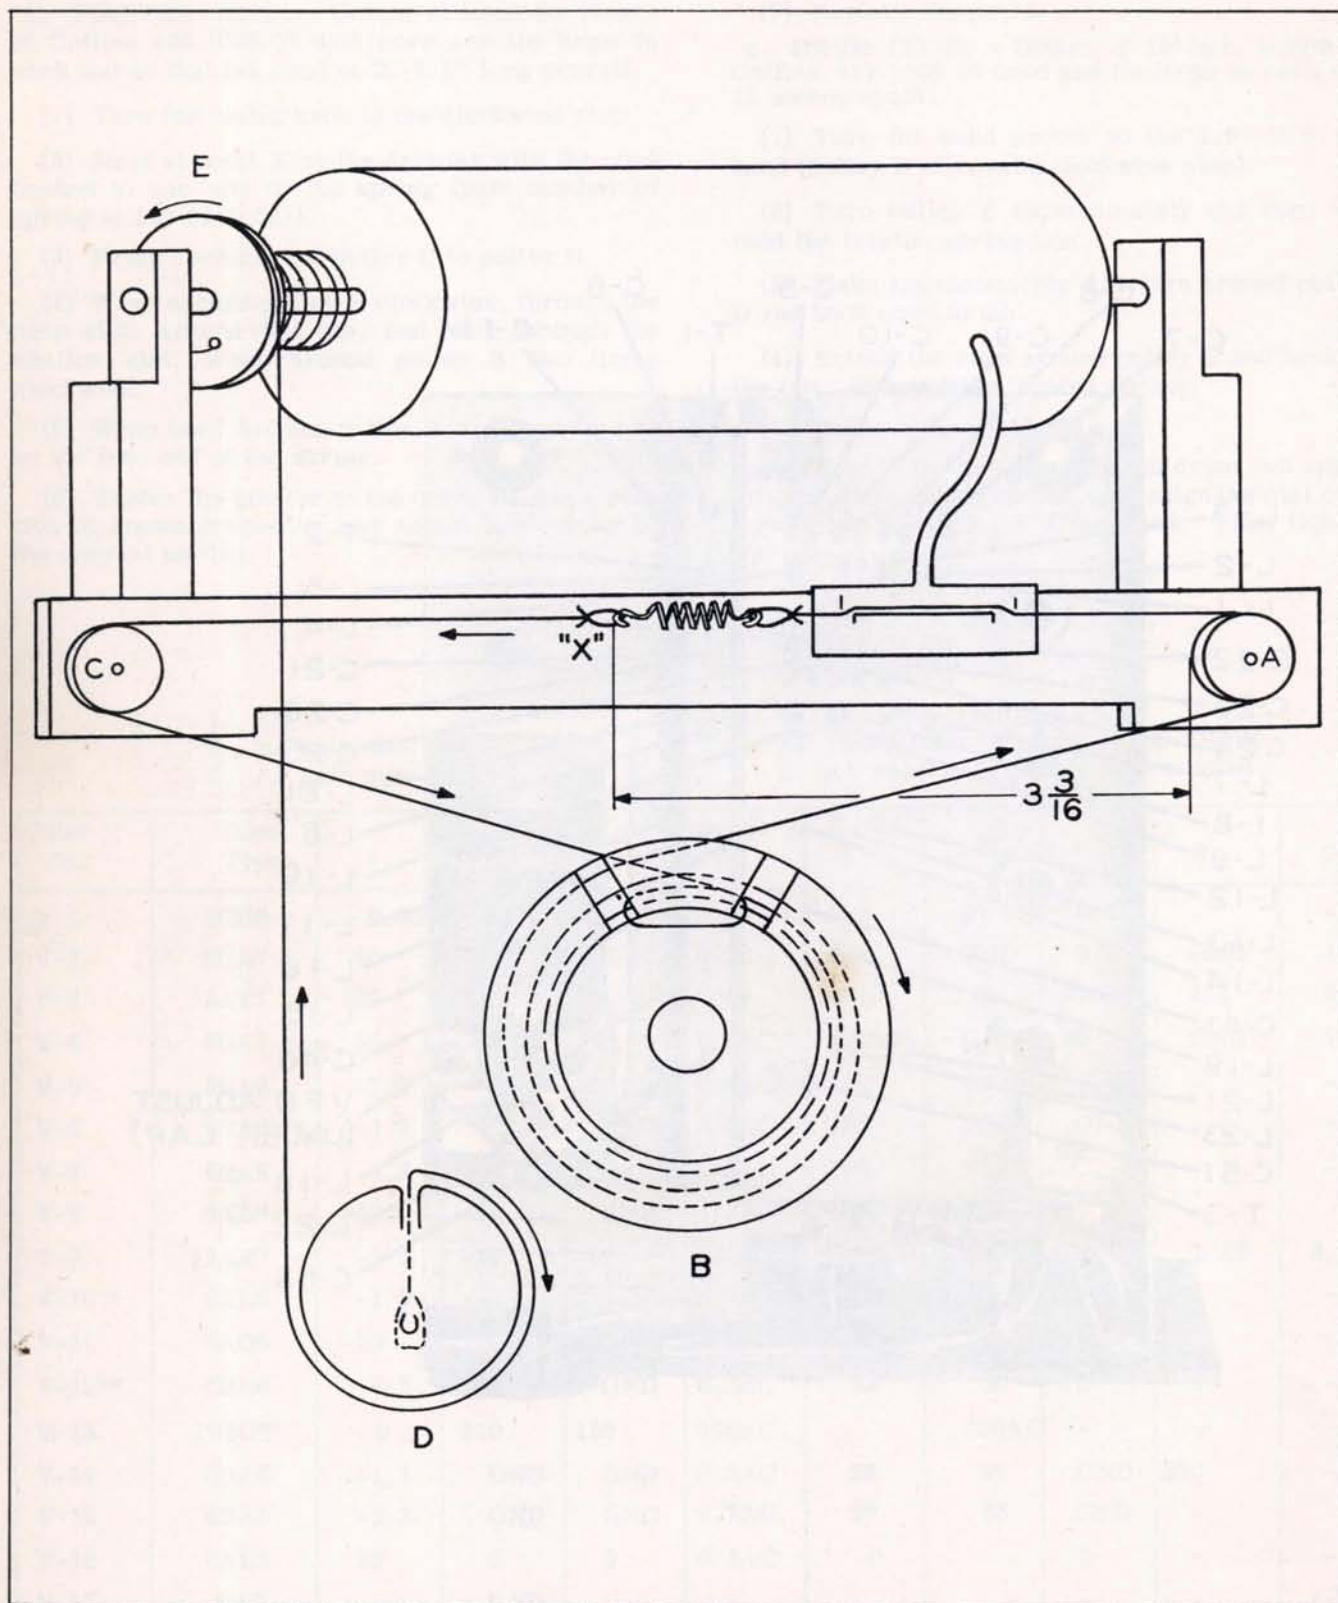

Figure 5-2. Dial Cord Replacement
11. **DIAL CORDS.** The front panel must be removed for replacement of the dial pointer cord or the drum rotator cord. Figure 5-2 shows both cords in place and the direction in which the re-stringing should proceed.